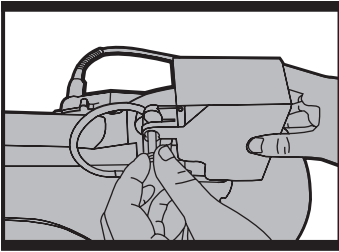
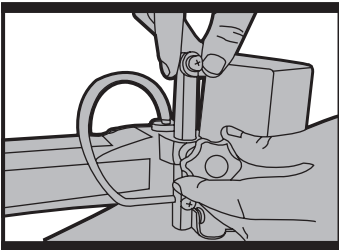

Fig.B1
Fig.B3
2. Mounting the saw blade guard (see Fig.B1—Fig.B3)
(Fig.B1)
The saw blade guard can be fixed at various heights with the lock knob (f). **(Fig.B3)**